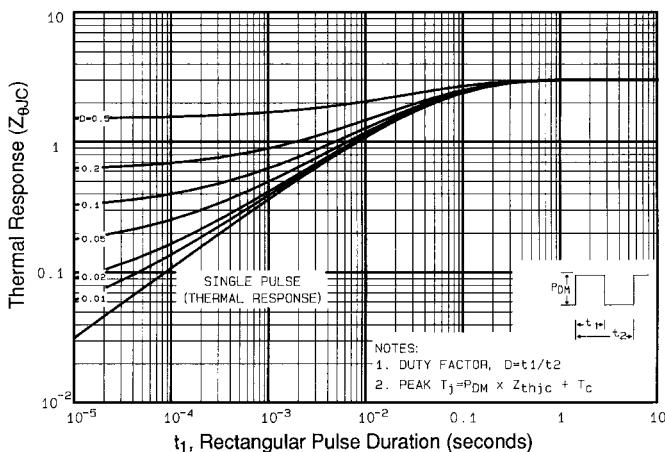

Fig 11. Maximum Effective Transient Thermal Impedance, Junction-to-Case
① Repetitive rating; pulse width limited by max. junction temperature (See Figure 11)
③ $I_{SD} \leq 17\text{A}$, $di/dt \leq 110\text{A}/\mu\text{s}$, $V_{\text{DD}} \leq V_{(\text{BR})\text{DSS}}$, $T_J \leq 150^\circ\text{C}$
② $V_{\text{DD}}=25\text{V}$, starting $T_J=25^\circ\text{C}$, $L=541\mu\text{H}$